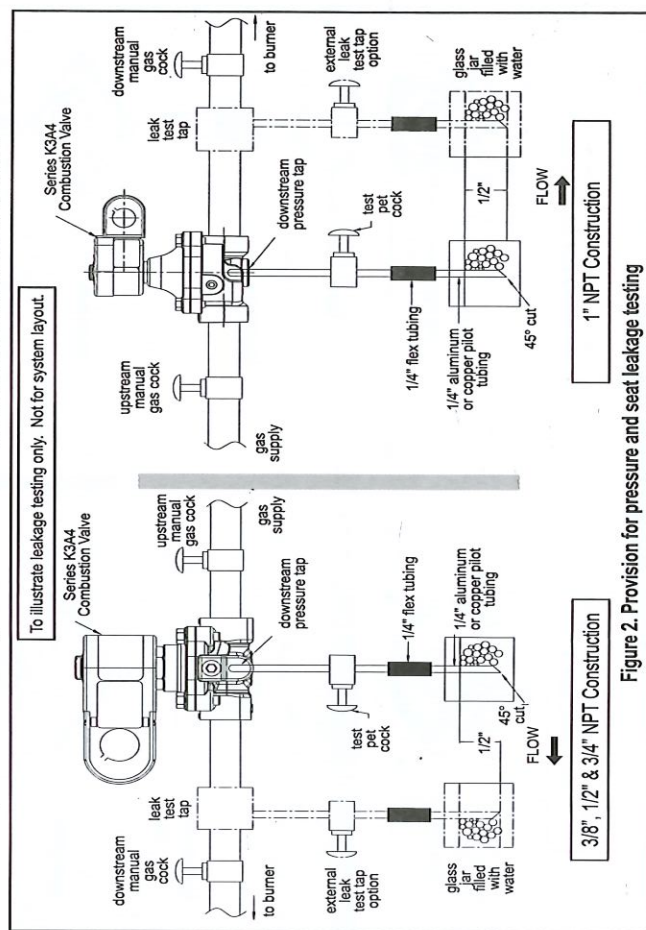

Figure 2. Provision for pressure and seat leakage testing
Valves with connection 3/8" to 3/4" NPT are provided with two 1/8" NPT tapped and plugged holes (pressure taps). The upstream tapped and plugged hole is on the side of the valve body; downstream on the bottom of the valve body. One upstream for pressure rating, one downstream for seat leakage testing. Valves with connection 1" NPT are provided with four 1/8" NPT tapped and plugged holes, two on either side of valve body. Two upstream for pressure rating, two downstream for seat leakage testing. Leakage testing frequency shall be at least annually in accordance with NPPA-86 or original equipment manufacturer recommendations. Testing is also required after valve disassembly and reassembly for inspection and cleaning. For instructions, refer to section on *Testing for Internal (Seat) Leakage* and Figure 2.
Testing for Internal (Seat) Leakage (Refer to Figure 2)
4. Shut off the upstream manual gas cock and de-energize valve. Remove the plug from the leak test tap or downstream pressure tap in the valve body. Connect leak test equipment with the test petcock in the closed position, see Figure 2.